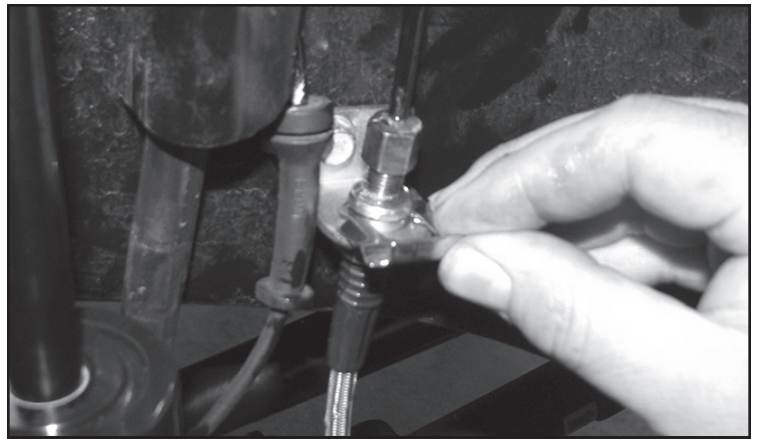

FIGURE 4 - STEP 3
3. Insert the new brake line fitting through the bracket and install onto the factory brake hardline. Next, install the supplied u-clip to secure the line to the bracket. **SEE FIGURE 4**